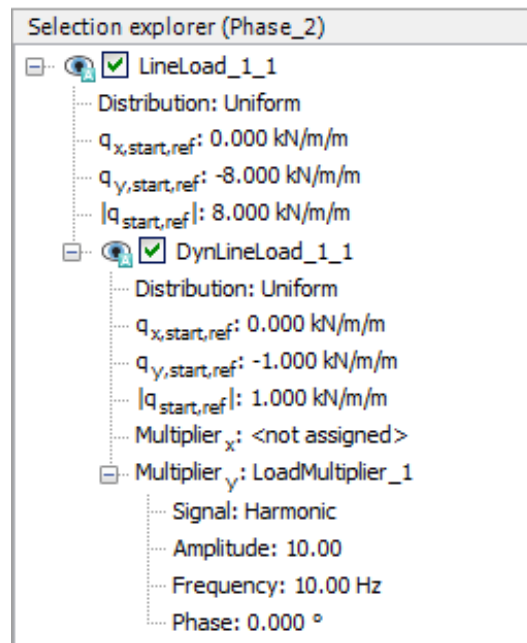

Figure 195: Specification of the dynamic load component in the **Selection explorer**
11. Specify the components of the load as $(q_{x, \text{start, ref}}, q_{y, \text{start, ref}}) = (0.0, -1.0)$. Click Multiplier_y in the dynamic load subtree and select the LoadMultiplier_1 option from the drop-down menu as shown in Figure 195 (on page 220).